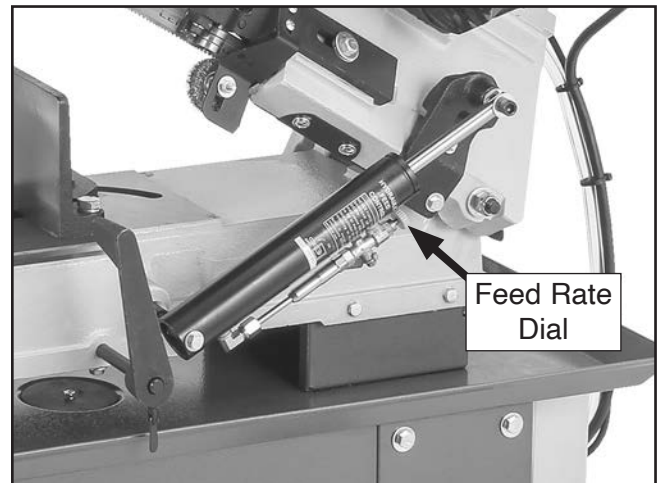

Figure 50. Location of feed rate dial.
6. Turn feed rate dial all the way clockwise (see **Figure 50**).